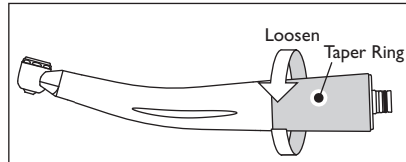

Fig. 11
- 1) Loosen and Remove the Taper Ring at the rear of the handpiece. (Fig. 11)